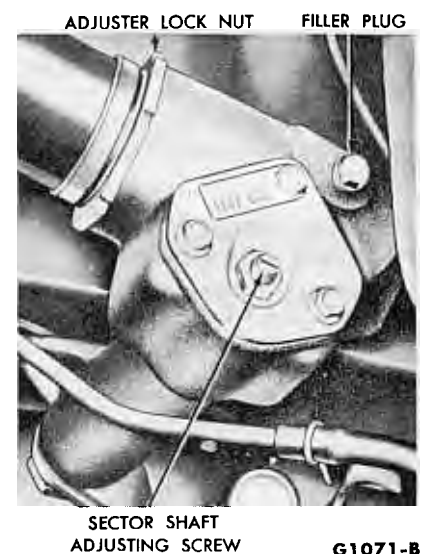

FIG. 3—Steering Gear Adjustments—Typical
6. Loosen the nut which locks the sector adjusting screw (Fig. 3), and turn the adjusting screw counterclockwise.
8. Loosen the steering shaft bearing adjuster lock nut, and tighten or back off the bearing adjuster (Fig. 3) to bring the preload within the specified limits.